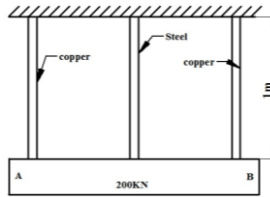

Figure 6
30. A horizontal rigid bar AB weighing 200KN is hung by three vertical rods, each of 1m length and 500mm² cross section as shown in **Figure 6**. the central rod is of steel and outer rods are copper. If the temperature rise is 40°C,